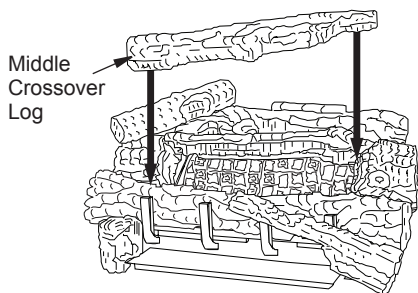

Figure 57 - Installing Middle Crossover Log
- Rest the middle crossover log onto the right middle log and the left front log (see Figure 57). Make sure to match the projection on the bottom of the crossover log with the recess area in the right middle log and the left front log.